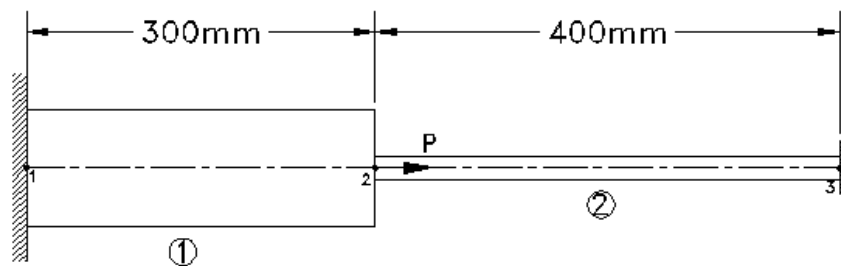

Figure 2
- (c) For a bar shown in figure 2 below, determine the nodal displacements and stresses in each element. Assume $A_1 = 2400 \text{ mm}^2$, $E_1 = 70 \text{ GPa}$, $A_2 = 600 \text{ mm}^2$, $E_2 = 200 \text{ GPa}$, Take $P = 20000 \text{ N}$. 07